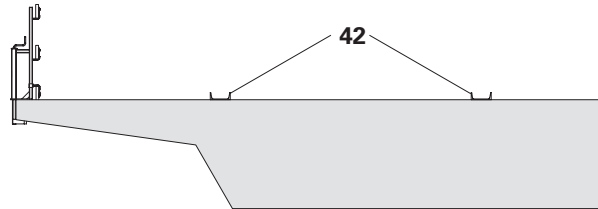

Fig. C1.01
1. Set down and position the U-sections (**42**) and secure them to prevent them from slipping. (Fig. C1.01)